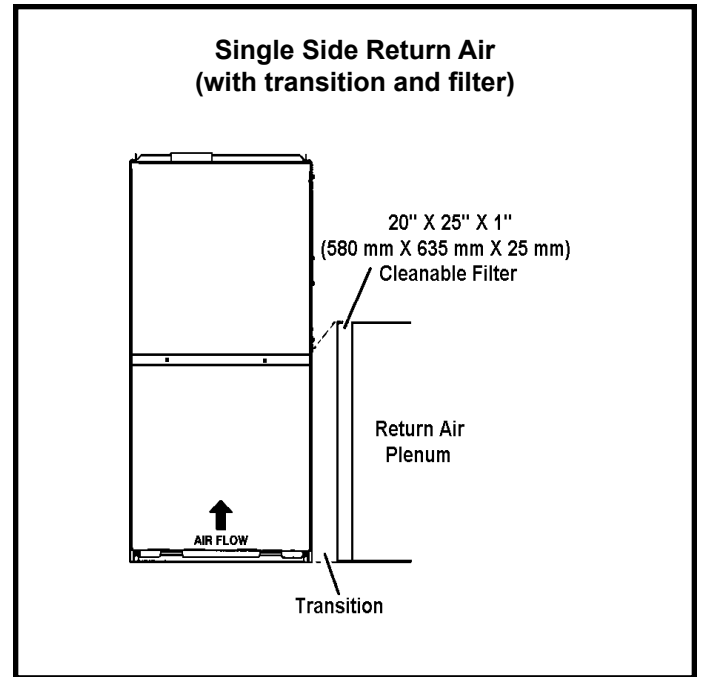

Figure 9
1. **Single side return air with transition to accommodate 20 x 25 x 1 in. (508 x 635 x 25 mm) cleanable air filter. (Required to maintain proper air velocity.) See Figure 9.**